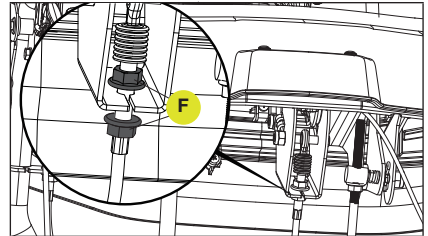

Figure 84
- Completely loosen both nuts (F) on this cable. (Fig. 84)